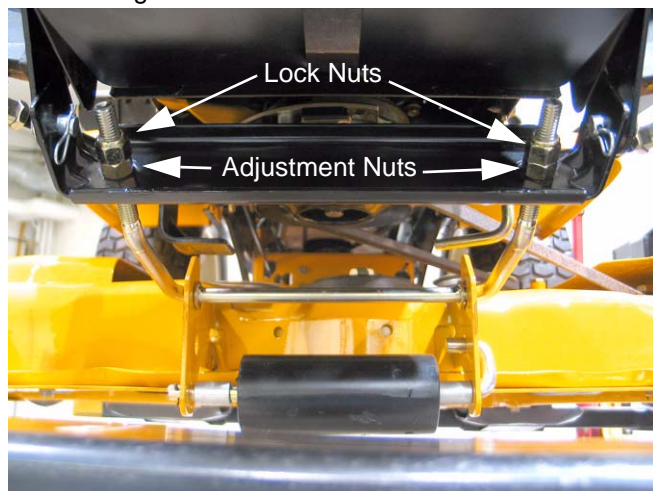

Figure 14.11
- 14.12. Locate both adjustment nuts on the front side of the deck stabilizer bracket. See Figure 14.11.